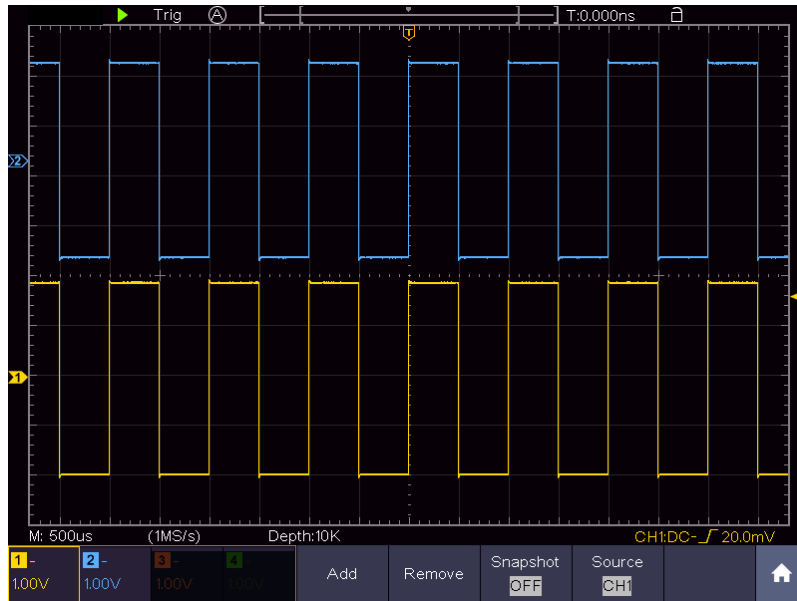

Figure 9-2 Waveform of Gain Measurement
- (1) Push the **Autoset** button and the oscilloscope will automatically adjust the waveforms of the two channels into the proper display state.
- (2) Push the **Measure** button to show the Measure menu.
- (3) Select **Add** in the bottom menu.
- (4) In the left Type menu, turn the **M** rotary control to select **PK-PK**.
- (5) In the right menu, select **CH1** in the **Source** menu item.
- (6) In the right menu, select **Add**. The peak-to-peak type of CH1 is added.
- (7) In the left Type menu, turn the **M** rotary control to select **PK-PK**.
- (8) In the right menu, select **CH2** in the **Source** menu item.
- (9) In the right menu, select **Add**. The peak-to-peak type of CH2 is added.
- (10) Read the peak-to-peak voltages of Channel 1 and Channel 2 from the bottom left of the screen (see Figure 9-2).
- (11) Calculate the amplifier gain with the following formulas.